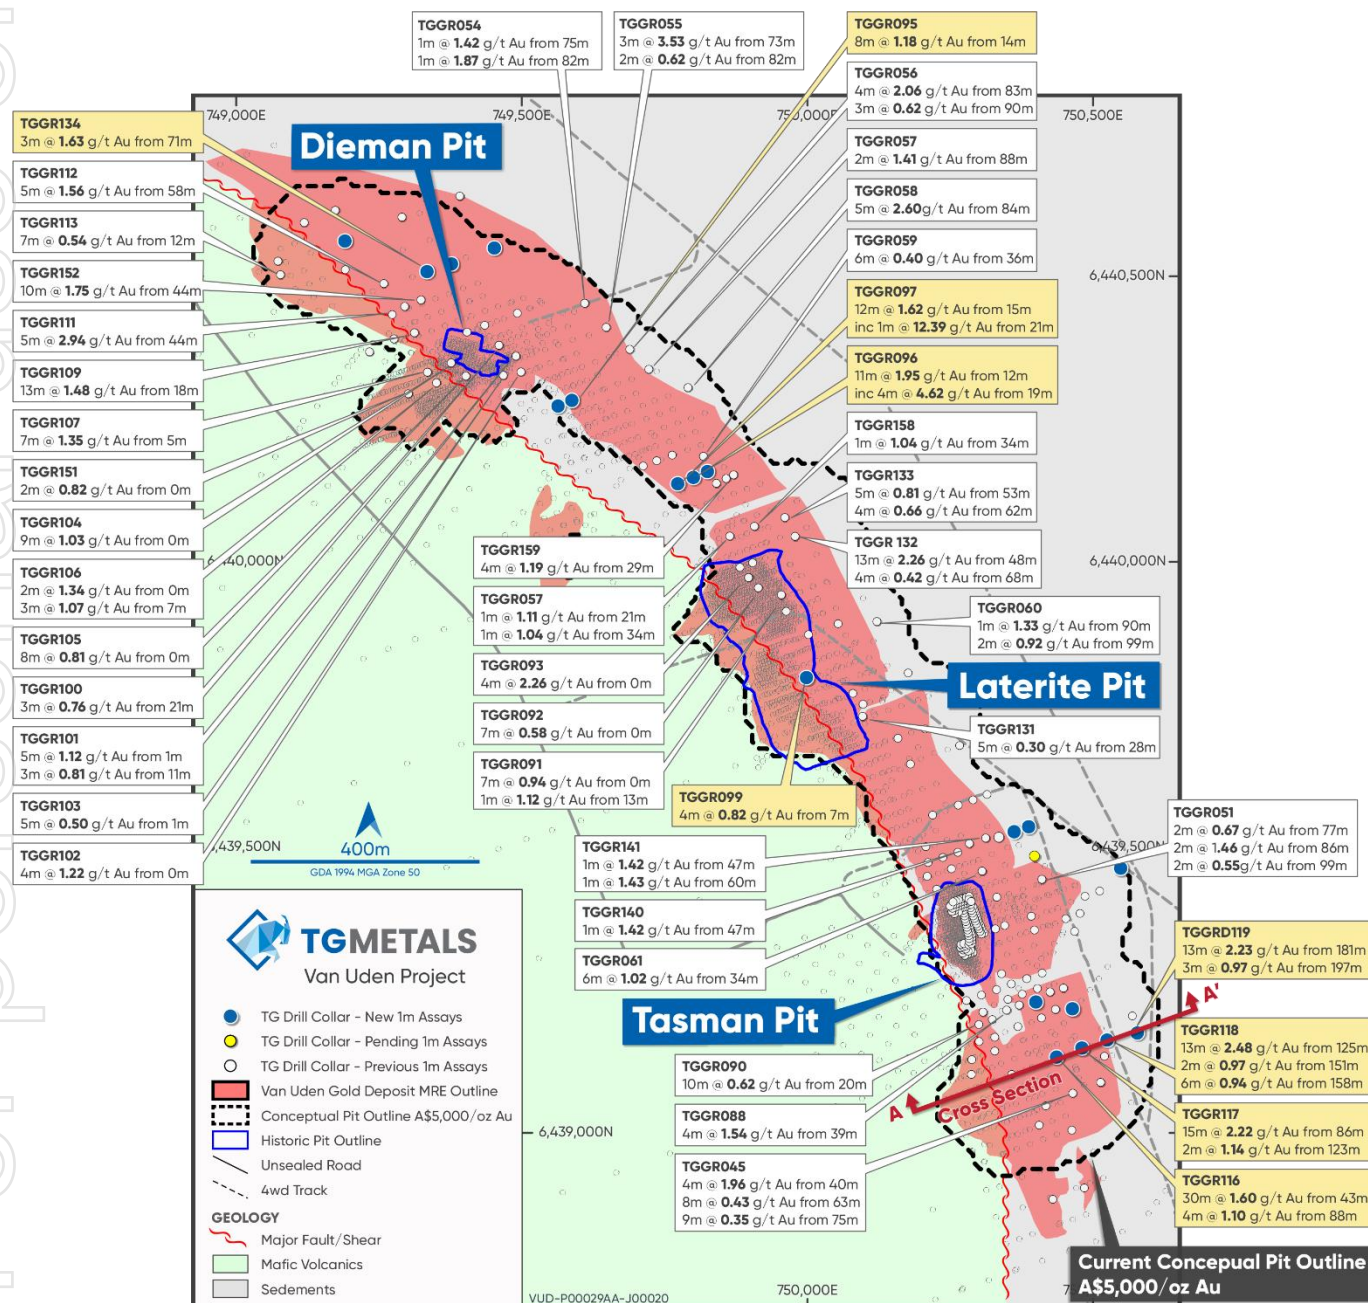

Figure 1 – New Resource Drilling Collars Showing Select Intercept Highlights (New Results in Yellow) and Pending Assay Drillholes marked yellow collars
These results are from 19 reverse circulation (RC) drillholes within the entire length of the Van Uden gold deposit (**Figure 1**), targeting resource extensions and infill drilling. Multiple gold zones intercepted showing increasing continuity and depth extensions beyond the conceptual A\$5,000/oz pit shell. Result highlights include:
The ongoing purpose of this drilling campaign is to expand on the current Van Uden mineral resource estimate (MRE) via infill and down dip extensions and to provide data to improve our geological understanding. These results are from the entire length of the Van Uden deposit in particular providing a complete sectional traverse across the unmined Zeehan area, south of the historic Tasman pit. **Figure 1** shows the location of the reported results for these drillholes.
The reported drilling is right across the entire length of the current MRE. The drill collars of drillholes with pending assays are also included in this report and updated collar coordinates from DGPS field surveying using the MGA2020 Zone 50 grid and datum to align with DMPE requirements for government data submission. See **Figure 1** for drill collar locations.